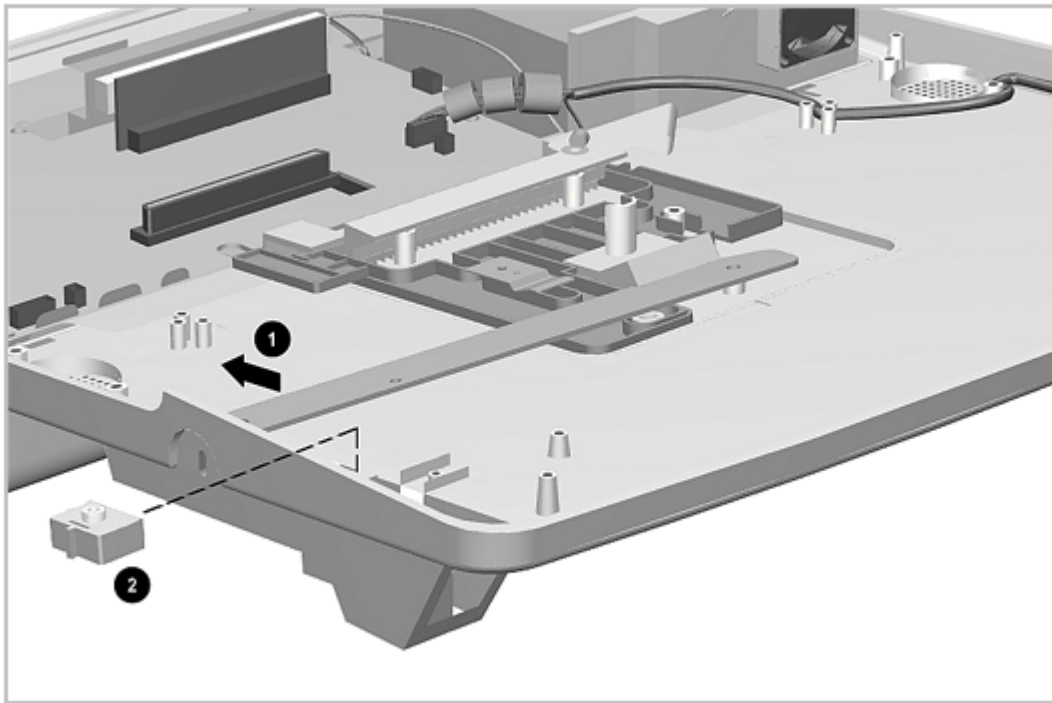

Figure 7-39. Removing the Docking Lever Slider
4. The docking lever slider is now free to be removed [1] (Figure 7-39). Note that the little tab on one side of the docking lever slider [2] goes toward the outside of the expansion base at reassembly.